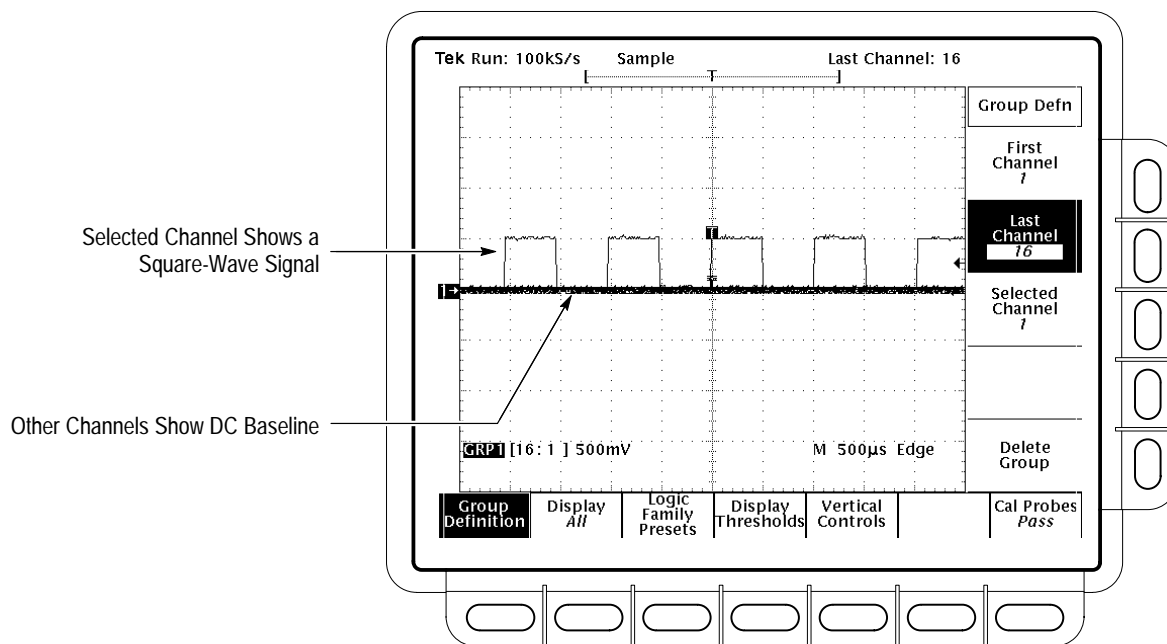

Figure 4–4: Square Wave Calibration and DC Baseline Signals
- Refer to Figure 4–1: “Main menu” refers to the menu that labels the seven menu buttons under the display; “side menu” refers to the menu that labels the five menu buttons to the right of the display. “Pop-up menu” refers to a menu that pops up when a main-menu button is pressed.
- g. Verify that the word *Pass* appears in the main menu under the **Voltage Reference, Frequency Response, and Pulse Trigger** menu labels (See Figure 4–2.)
- A square-wave probe-calibration signal about one division in amplitude is on screen. (See Figure 4–4.)
- a. Install the probe on channel 1. Connect the probe tip to the **PROBE CALIBRATION** signal on the front panel. (See Figure 4–3 on page 4–8.)
- a. Install the probe on channel **1**. Connect the probe tip to the **PROBE CALIBRATION** signal on the front panel. (See Figure 4–3 on page 4–8.)